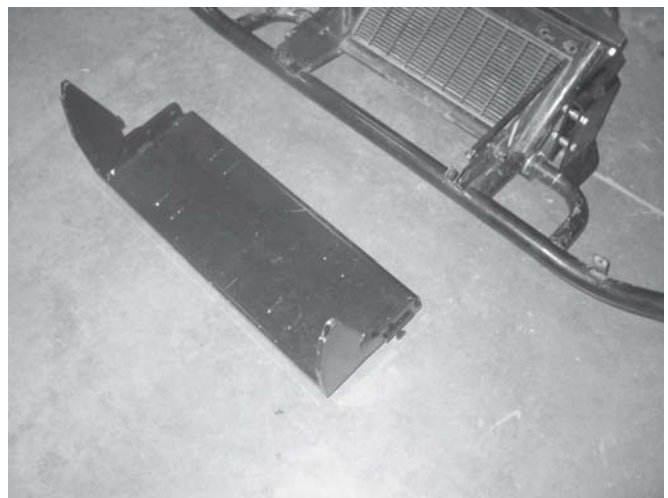

Figure 6 Plow support and bumper layout
5. Remove the plow support from the kit and place on the ground. The plow support will be used to ensure the mounts are square prior to drilling the holes in the bumper. Install the bumper assembly over the plow support. See Figure 6, 7 and 8.